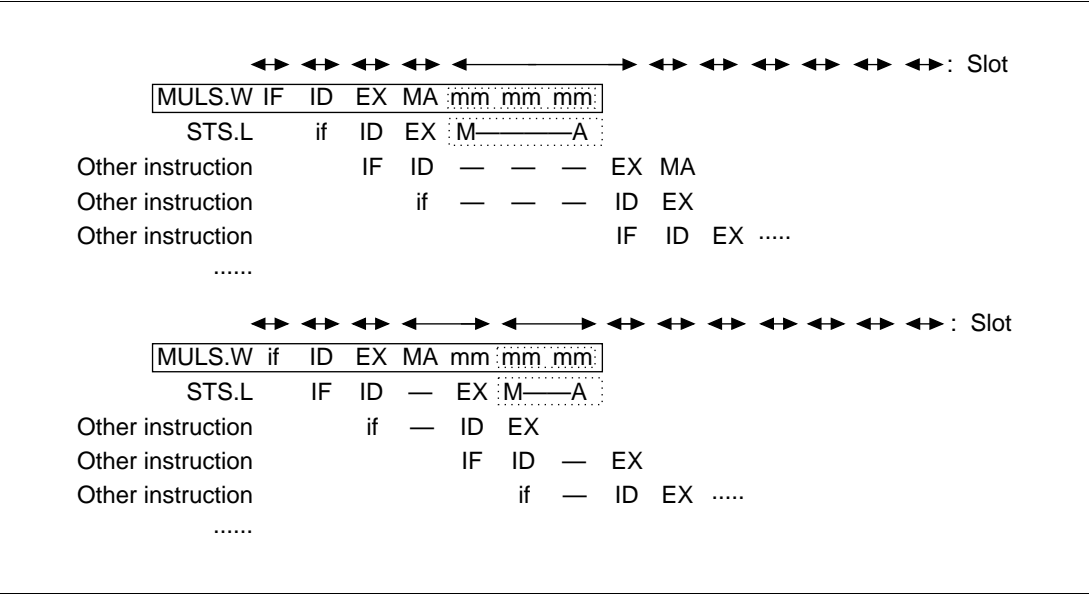

Figure 7.59 STS.L (Memory) Instruction Immediately After a MULS.W Instruction
- When the contents of a MAC register are loaded from memory using an STS instruction, an MA stage for accessing the multiplier and writing to memory is added to the STS instruction, as described later. When the MA of the STS instruction contends with the operating multiplier (mm), the MA is extended until one cycle after the mm ends (the M—A shown in the dotted line box in figure 7.59) to create a single slot. The MA of the STS contends with the IF. Figure 7.59 illustrates how this occurs, assuming MA and IF contention.